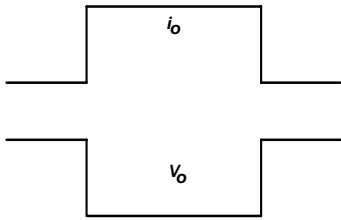
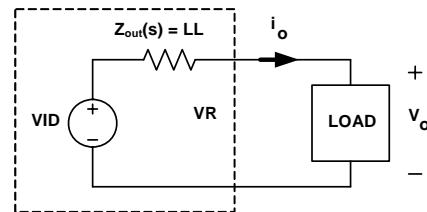

FIGURE 18. DESIRED LOAD TRANSIENT RESPONSE WAVEFORMS
FIGURE 24. VOLTAGE REGULATOR EQUIVALENT
Assuming the compensator design is correct, Figure 18 shows the expected load transient response waveforms if C_n is correctly selected. When the load current I_{core} has a square change, the output voltage V_{core} also has a square response.
Figure 18 shows the desired load transient response waveforms. Figure 24 shows the equivalent circuit of a voltage regulator (VR) with the droop function. A VR is equivalent to a voltage source (= VID) and output impedance $Z_{\text{out}}(s)$. If $Z_{\text{out}}(s)$ is equal to the load line slope LL, i.e. constant output impedance, in the entire frequency range, V_o will have square response when I_o has a square change.